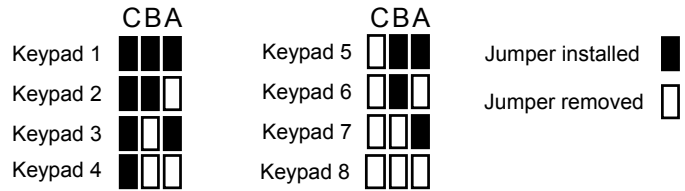

Figure 2.4: Keypad Unit Address Jumper Configuration
3. Install the jumpers according to Figure 2.4.